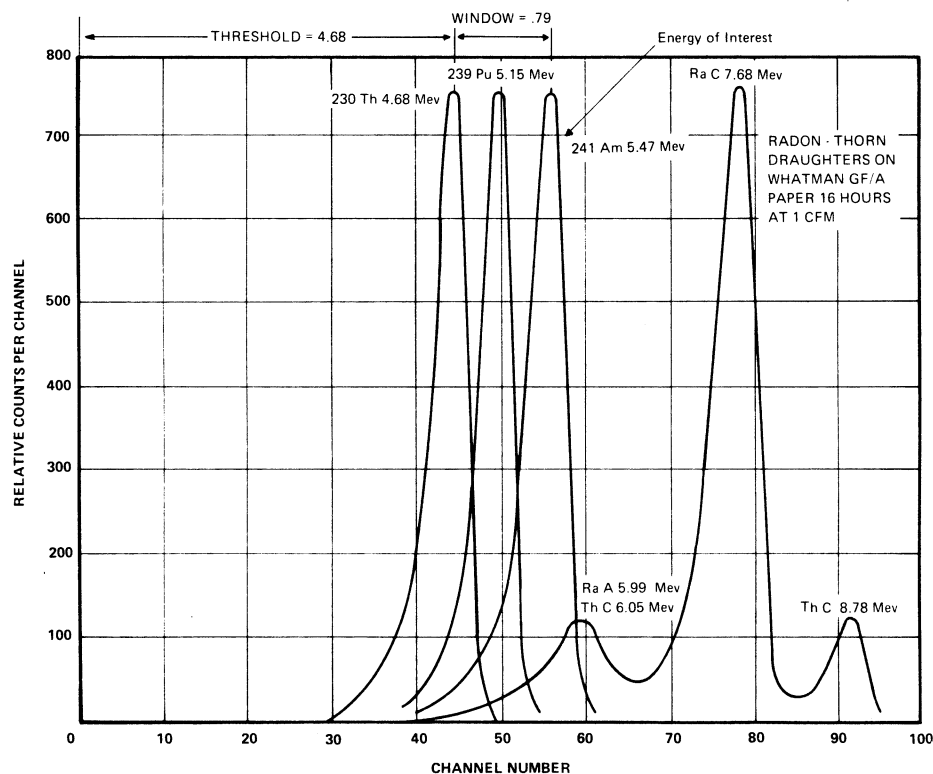

Fig. 5 Typical Pulse Height Spectrums
- 5. The 'THRESHOLD' and 'WINDOW' adjustments of the ALPHA-3 correspond to a channel number on Figure 5. The optimum setting for  $\text{Pu}^{239}$ , for example, would be a 'THRESHOLD' setting equivalent to channel 4.65 and a 'WINDOW' setting equivalent to 10 channels in width, which would extend to channel 56.5. With these settings, the ALPHA-3 would count at least 90% of the  $\text{Pu}^{239}$  counts and reject everything outside these limits.
- 6. However, some of the counts from the radon-thoron daughter spectrum do fall within channels 46.5 to 56.5 and will be counted. In Figure 5, these represent approximately 2% of the total radon-thoron activity. The actual percentage of the total radon-thoron activity which is counted depends on the 'THRESHOLD' and 'WINDOW' settings and on the relative abundance of the various daughters.
7. The relative abundance of the RaA, RaC', ThC and ThC' depend, naturally, on their relative abundance in the air and their equilibrium condition. This also depends on how long the sample has been collating. The short half life RaA (3 min.) will reach equilibrium on the paper quite rapidly, while the RaC will take longer due to its longer apparent half life (approx. 30 min.). Likewise, the ThC and ThC1 continue to build up and will not reach equilibrium for many hours because of longer apparent half life (10.6 hours). Figure 5 shows pulse height spectra from various sources taken on a multichannel analyser connected into the ALPHA-3 at the amplifier output. The lower three are taken from plated sources placed in the sample holder of the ALPHA-3. The upper curve is from a filter paper after 25 LPM of air has been pulled for 16 hours.